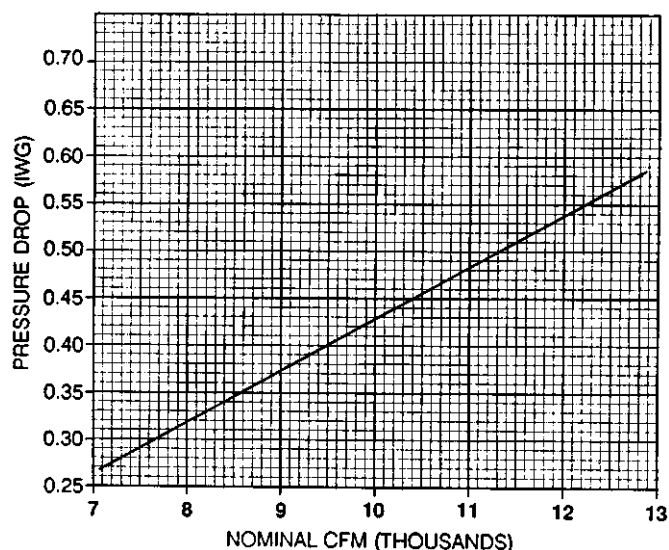

FIG. 17 - PRESSURE DROP ACROSS A DRY INDOOR COIL VS SUPPLY AIR CFM
- Knowing the pressure drop across a dry coil, the actual CFM through the unit and clean 2" filters, can be determined from the curve in Figure 17.